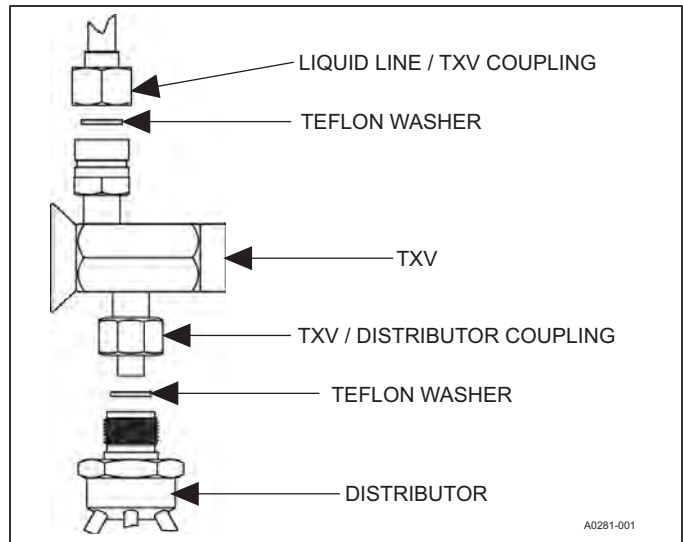

FIGURE 6: TXV Installation
- Install the thermal expansion valve to the distributor assembly with supplied fittings. Ensure teflon washer is seated in distributor. Hand tighten and turn an additional 1/4 turn to seal. Do not overtighten fittings. See Figure 6.